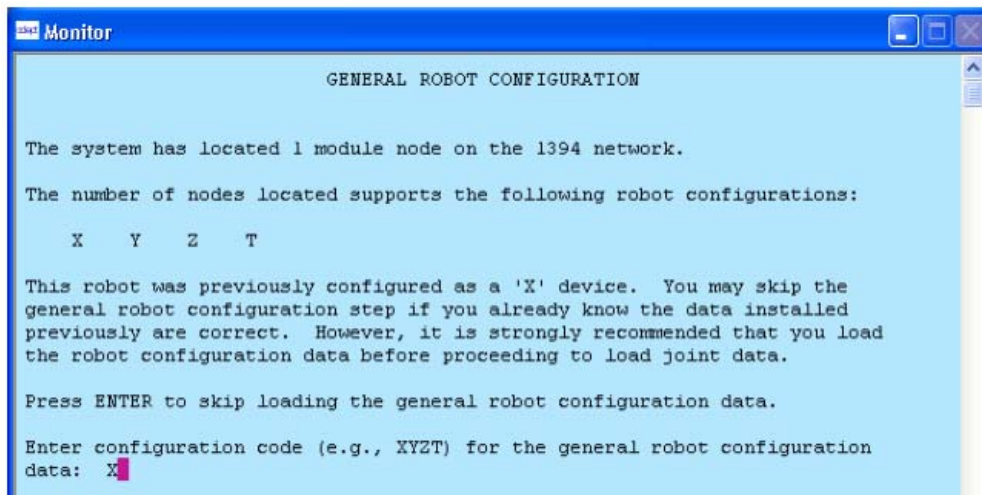

Figure 4-8. DC_SETUP General Robot Config. (JTS Coordinated-Joint-Control Module)
4. Press ENTER. A screen similar to the one shown in Figure 4-8 will be displayed.